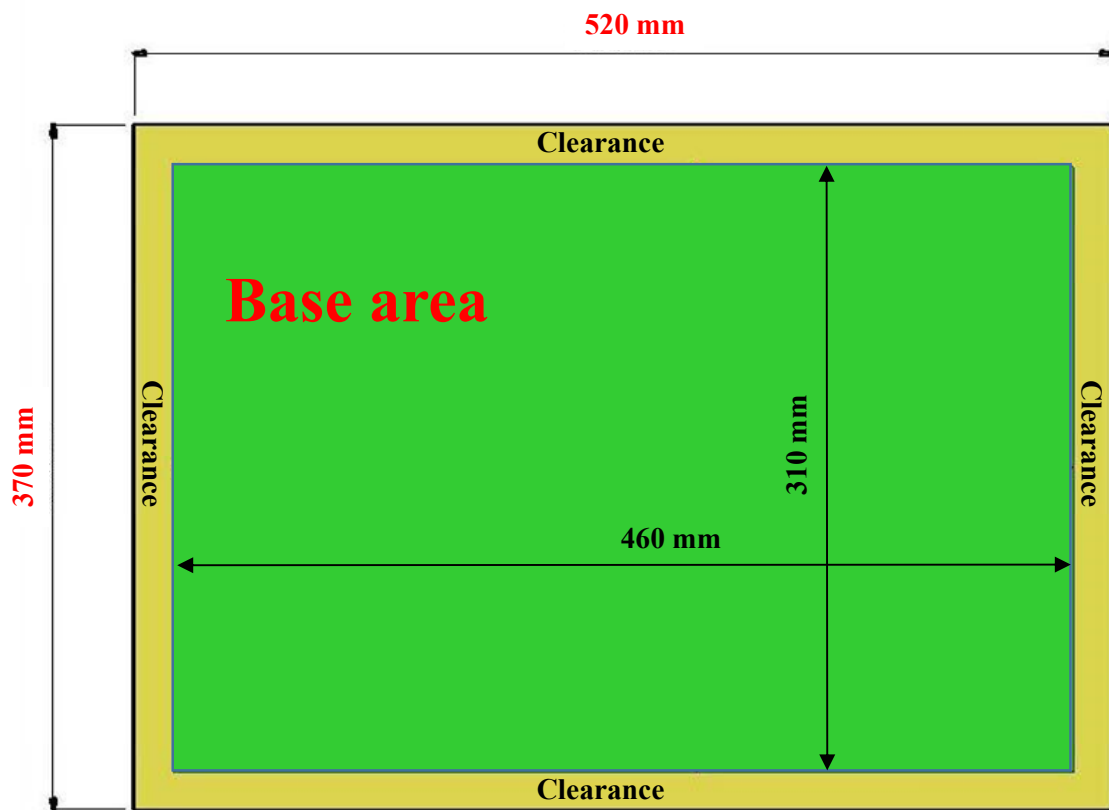

Figure 1: Top view of the MDF base board
- The model building must be constructed on a wooden board with a dimension of 370 mm (W) × 520 mm (L) × 6 mm (H), while the base area of the model building is limited to 310 mm (W) × 460 mm (L). IDEERS will provide a medium-density fiberboard (MDF) as the base wooden board. The baseboard should have a 30-mm clearance left at four edges so that the model building can be fixed on the shaking table (Figures 1 and 2). The model building can be in any shape, but the fabrication area of the building is restricted to follow the IDEERS requirement.